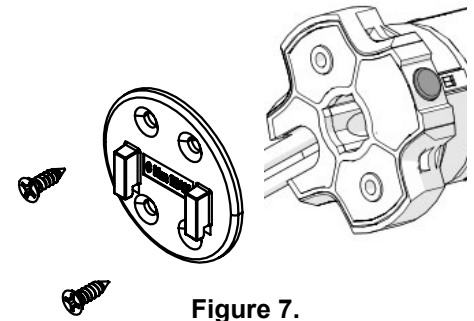

Figure 7. Install the Motor Mount Plate
Step 4. Install the motor mount plate to the tubular motor by using the screws provided and a Phillips screw driver, as shown in **Figure 7**.